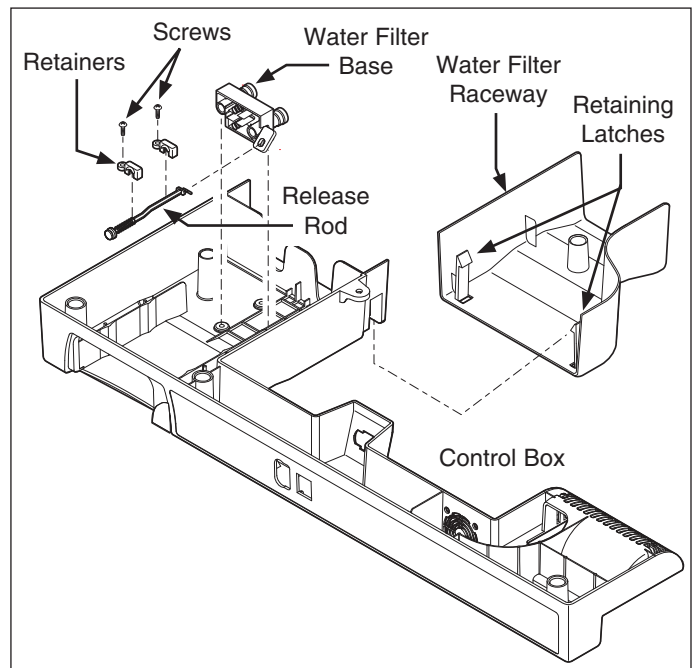

Figure 6-16. Light Fixture and Control Removal
3. Remove water filter raceway by pressing in on the retaining latches and separating the raceway from the control box assembly. (See Figure 6-16)
5. Extract the screw from each retainer securing the release rod to the control box assembly. Lift retainers off release rod. (See Figure 6-16)